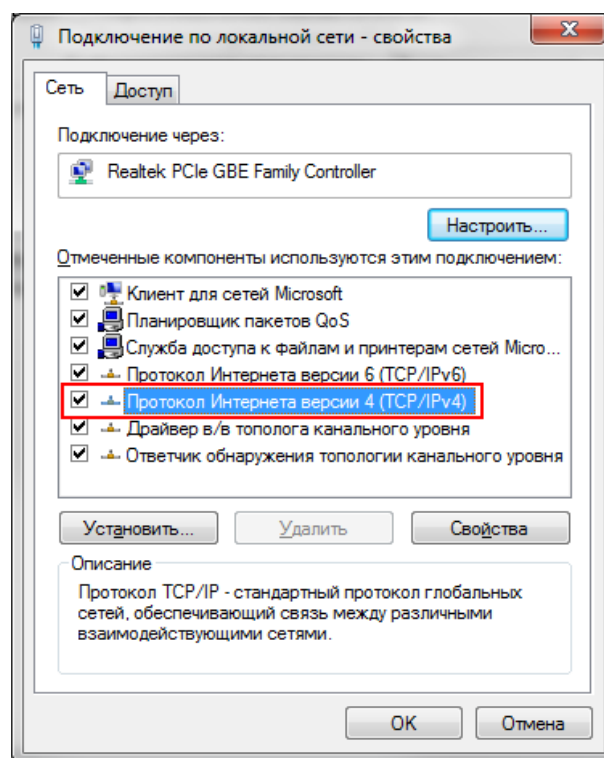

Figure 3.4 – Network settings properties window
- 4) In the new window put cursor on **Internet protocol version 4** and push **Properties** (view Figure 3.4.).